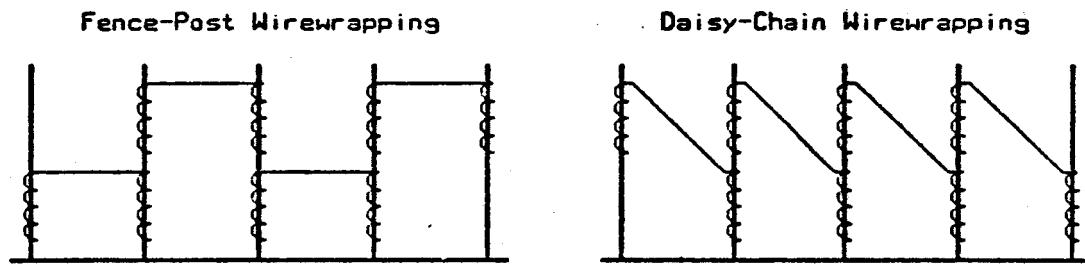

Figure 8 - Wirewrapping Styles
1. <OutputFile>.Wrap - Wirewrap wirelist (Appendix E). This wirelist is designed for fence-post style wirewrapping. Figure 8 illustrates two popular styles of wirewrapping. Dwl prints an entry for each wiring network. The first line has 25 dashes followed by the net name. Each subsequent line describes a single wire to be wrapped by specifying the location-pad pair of the two ends of the wire and L1 or L2 to describe whether the wire is a Level 1 or Level 2 wrap respectively. The .Wrap file is optional.
4. <OutputFile>.Chip - Chip, Pin, Signal list (Appendix H). An entry is printed for each component used in the design. The first line of this entry contains the location and part name. Each subsequent line describes a single pin of the component. Columns 1 through 3 contain the pin number, columns 6 through 27 contain either the name of the net that includes the pin or \*NC\* if the pin is not in any net, columns 28 through 35 contain the location-pad pair, and columns 36 through 80 contain a notation which describes the pin as a ground pin (GND), power pin (VCC), input pin (TI), output pin (TO), tri-state output pin (TOT), open-collector pin (TOC), bi-directional pin (ANA), or analog pin (ANA). The .Chip file is optional.